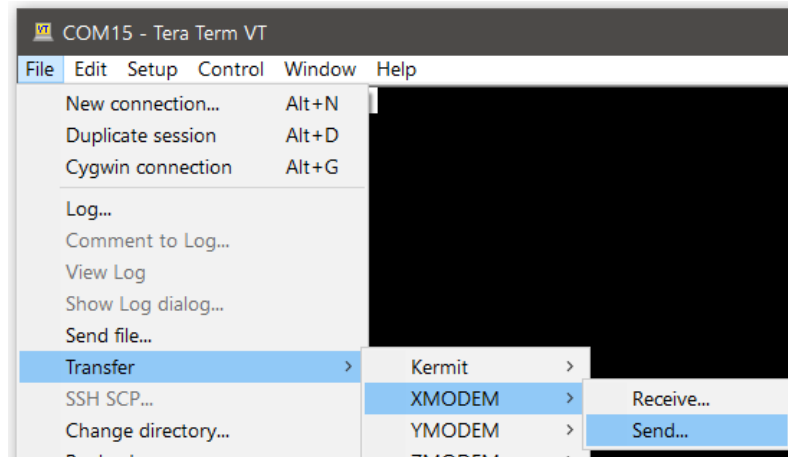

Figure 6-7 Starting Firmware Upgrade
- 5) Select the .hex file with new Firmware image to send (Figure 6-7);